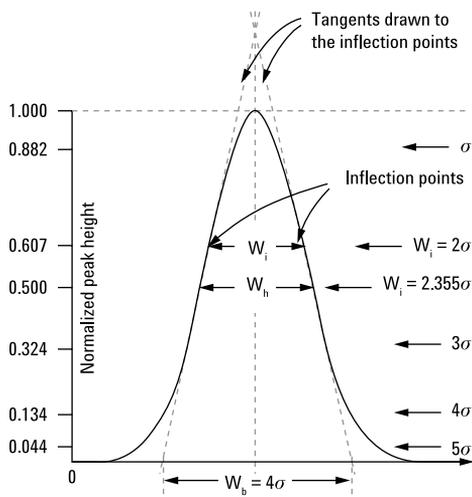

Figure 80. Widths of a Gaussian peak at various heights as a function of the standard deviation (σ) of the peak. (Modified with permission from reference 2).
Band broadening: The process of increasing width and concomitant diluting of the chromatographic band as it moves down the column. The peak is injected as a narrow slug and, ideally, each separated component would be eluted as a narrow slug of pure compound if not for the process of band broadening. The measure of band broadening is bandwidth (t_w) or, more correctly, the number of theoretical plates (N) in the column. Sometimes called band dispersion or band spreading. See Figure 80.
Bandwidth (t_w): The width of the chromatographic band during elution from the column. It usually is measured at the baseline by drawing tangents to the inflection points on the sides of the Gaussian curve that represents the peak. Small bandwidths usually represent efficient separations; also called peak width. See Figure 80.